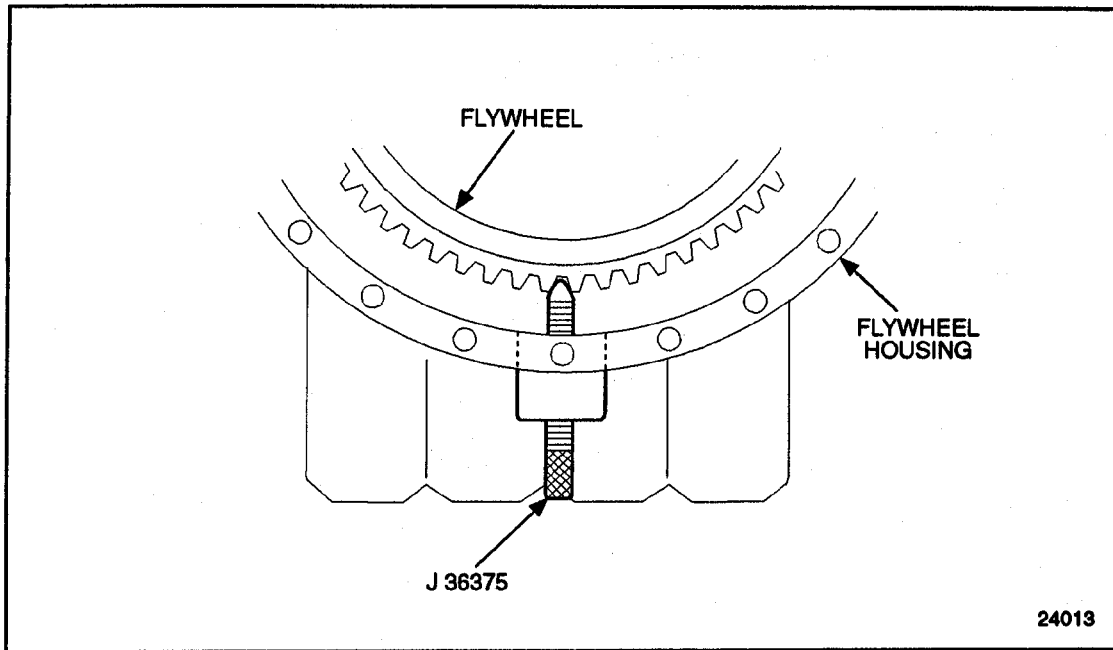

Figure 9-3 Flywheel Lock Location
2. Thread the center screw of the J 36375-A into the flywheel housing until the tip of the tool rests between two teeth of the flywheel ring gear. Finger-tighten the knurled knob; see Figure 9-3.